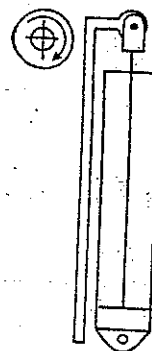

Figure A.26
A.3.9 A cutting machine as shown diagrammatically in Figure A.26 consists of a rotating cutting head and a sliding horizontal table. The table is driven by a hydraulic cylinder with a stroke of 2 m. The cylinder is to have a rapid approach speed of approximately 3 m/min automatically changing to a slow cutting speed as the pressure increases when the workpiece contacts the cutting head. The slow cutting speed is to be manually adjustable between 10 and 150 mm/min. A retract speed of approximately 3 m/min is required.